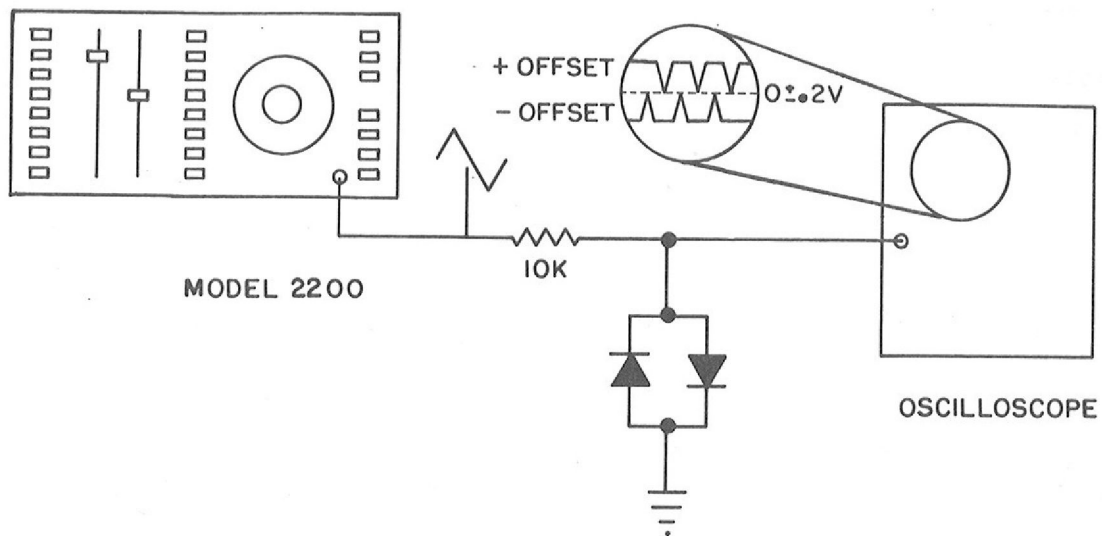

Figure 7. Test Circuit for FIXED OFFSET Adjust
Set the WAVEFORM switch to  $\wedge$  frequency to 500 Hz. Switch the DMM to AC operation, and switch the FIXED OFFSET control to the  $\square$  (+) position; adjust R509 for an AC reading of 4.16 volts to 4.25 volts. Return the FIXED OFFSET to the  $\square$  (off) position. Switch the DMM to DC operation and readjust R528 for a reading of zero,  $\pm 20$  millivolts. Disconnect the DMM and connect the generator MAIN OUT to the scope through the clipping circuit shown in Figure 7. The circuit consists of a 10k ohm resistor (carbon or film) in series with the MAIN OUT and the scope input, plus two (2) back-to-back diodes across the scope input terminals. Return the FIXED OFFSET control to the  $\square$  (+) position; set the scope vertical input sensitivity to 0.2V/cm, DC coupled, horizontal to 1 ms/cm cal.